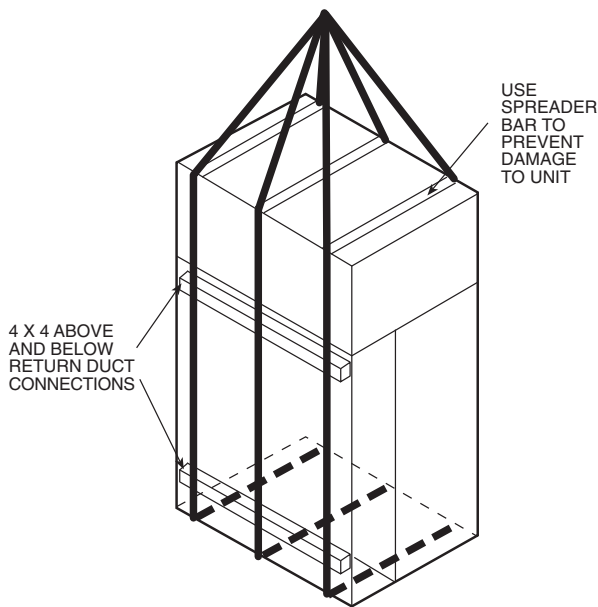

Fig. 1 — Modular Unit Rigging
Step 2 — Rig and Place Unit — Use proper lifting and handling practices to avoid damage to the unit. Move modular units with a fork truck using the baserails provided, or use spreader bars and lifting straps as shown in Fig. 1.